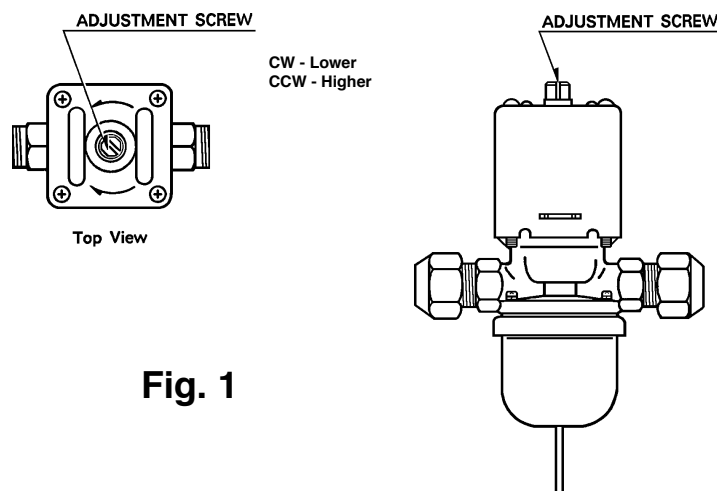

Fig. 1
- 2) Rotate the adjustment screw by using a flat blade screwdriver, so that the pressure gauge shows the temperature specified in the table, 5 minutes after a freeze cycle or icemaking process starts. When the pressure exceeds 235 PSIG, or the condenser drain temperature exceeds the temperature range, rotate the adjustment screw clockwise. See Fig. 1.